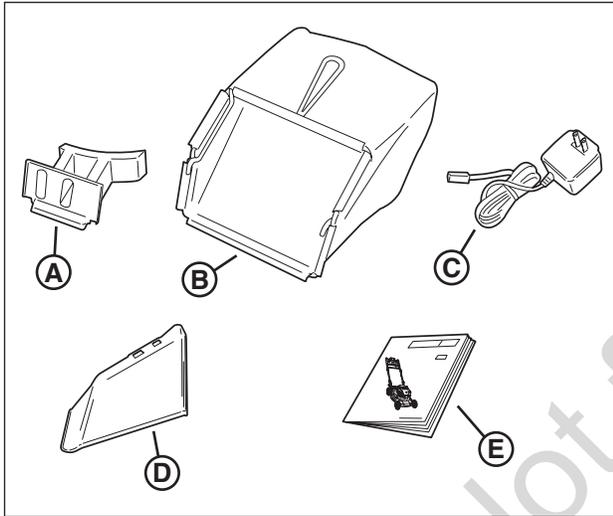

Figure 1: Items included
- Mulching plug (A, Figure 1 - installed)
- Grass bag (B)
- Side discharge deflector (D)
- Operator's manual (E)